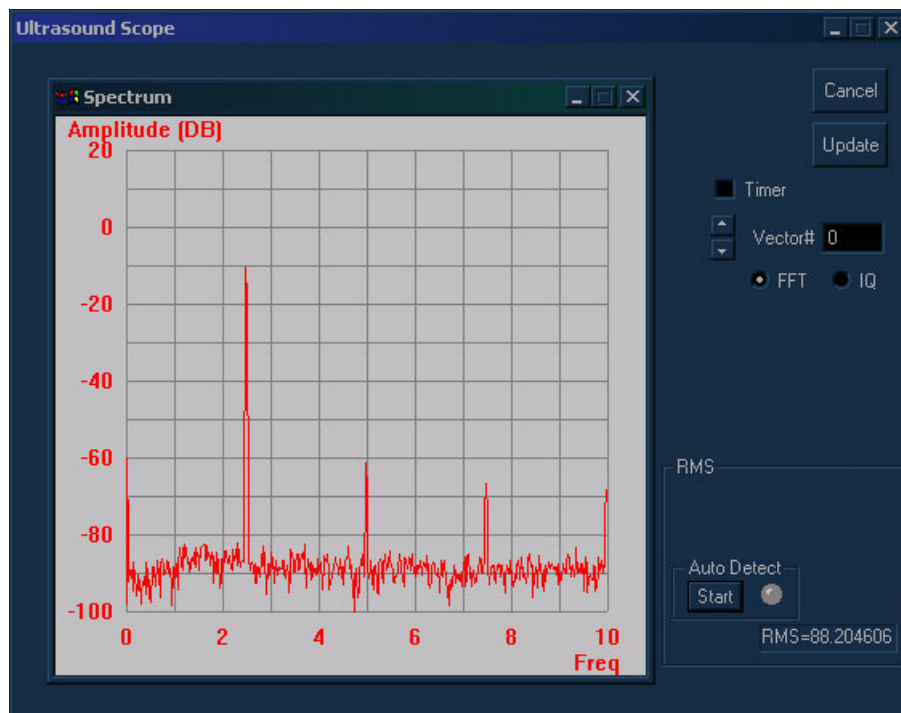

Figure 7-13 Ultrasound Scope Window
- 5) Trackball to the **ADC** button and press **Select**. The beamformer digital test and ADC bit tests are activated sequentially. The test results are displayed, per vector, in the *Ultrasound Scope* window, as shown in Figure 7-13 below.